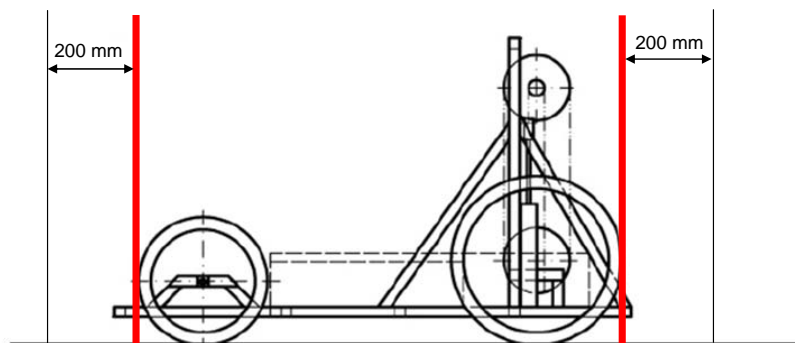

figure 2.
- f) The engine should be placed in the vehicle so that its parts extend max. 200 mm from the farthestmost points of the front and back wheels. (See figure 2.). Parts not belonging to the engine may extend longer.